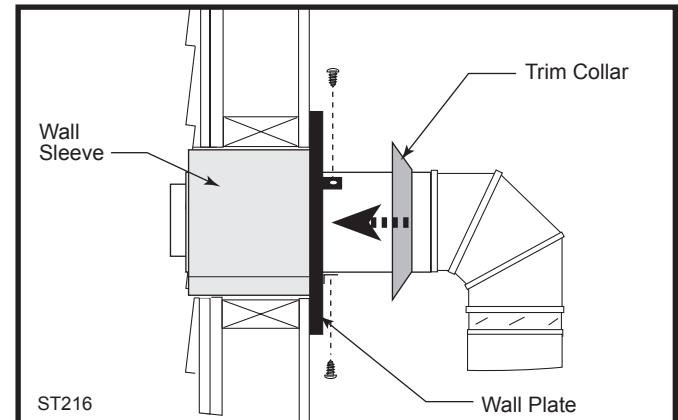

Fig. 28 Install the horizontal pipe and wall plate parts.
9. Connect the horizontal pipe to the elbow. Fasten the wall plate to the pipe with three sheet metal screws. Slide the trim collar up against the wall plate to cover the screws. (Fig. 28)